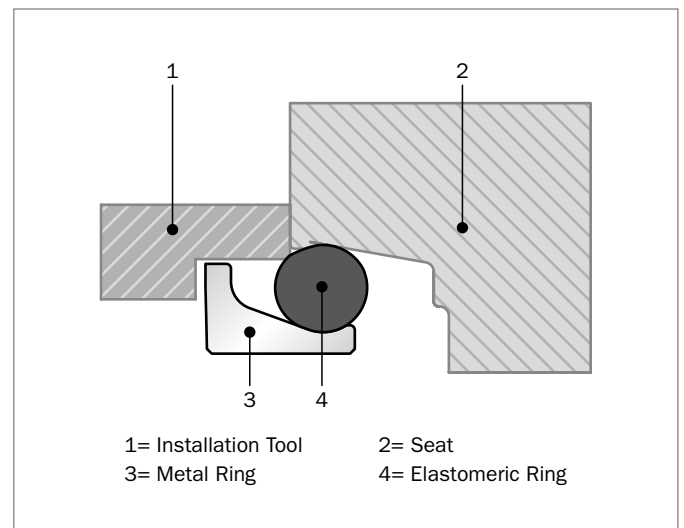

Figure 183: Installation Tool for DO Type
- Assemble each half seal into the house using an installation tool (Figure 183). Use a uniform load over the tool to push the half group in to the house until the elastomeric ring reaches the related housing border. The Installation Tool has to only touch the O-Ring and not the metal ring and importantly not the lapped surface. If you have any doubts or require assistance, please contact your local Customer Solution Center.